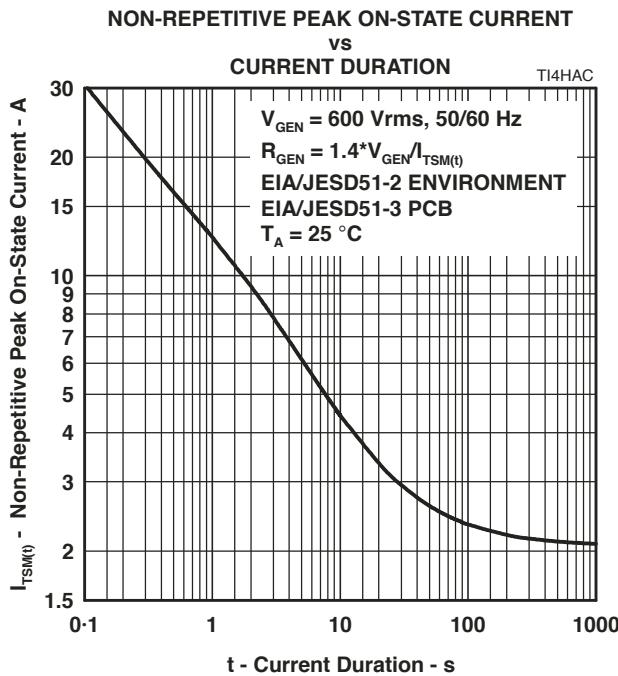

Figure 8.
5. EIA/JESD51-2 environment and EIA/JESD51-3 PCB with standard footprint dimensions connected with 5 A rated printed wiring track widths. See Figure 8 for the current ratings at other durations. Derate current values at $-0.61\%/\text{°C}$ for ambient temperatures above 25°C .
The protector can withstand currents applied for times not exceeding those shown in Figure 8. Currents that exceed these times must be terminated or reduced to avoid protector failure. Fuses, PTC (Positive Temperature Coefficient) resistors and fusible resistors are overcurrent protection devices which can be used to reduce the current flow. Protective fuses may range from a few hundred milliamperes to one ampere. In some cases, it may be necessary to add some extra series resistance to prevent the fuse opening during impulse testing. The current versus time characteristic of the overcurrent protector must be below the line shown in Figure 8. In some cases, there may be a further time limit imposed by the test standard (e.g. UL 1459 wiring simulator failure).